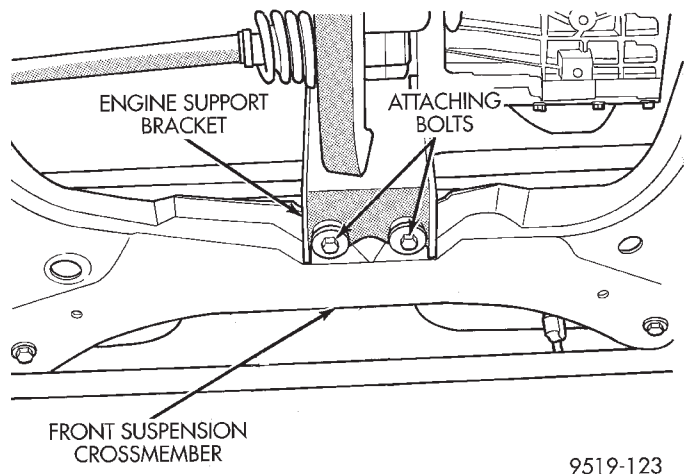

Fig. 12 Engine Support Bracket To Crossmember Attaching Bolts
(14) Remove the 2 bolts attaching the under engine support bracket (Fig. 12) to the front edge of the front suspension crossmember.
(5) Install the engine support bracket on the front of the front suspension crossmember (Fig. 12). Install the 2 support bracket to suspension crossmember attaching bolts and tighten to a torque of 75 N·m (55 ft. lbs.).